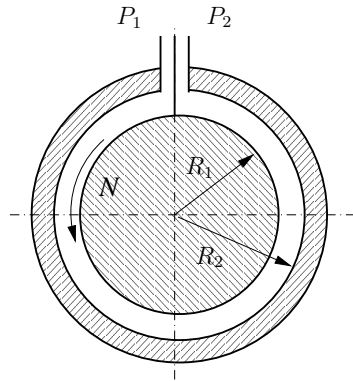

Fig. 6
- (b) A cylinder with an outer radius R_1 rotates inside a tube of an internal radius R_2 with the rate N rev/s. The cylinder and the tube are coaxial, and the uniform gap h between them is filled with oil, with viscosity μ . The system is used to pump the oil against the pressure difference ΔP (see figure 6). Find the relation between the head and the flow rate of the pump (characteristic curve). Find the efficiency of the pump and its optimal operational parameters.